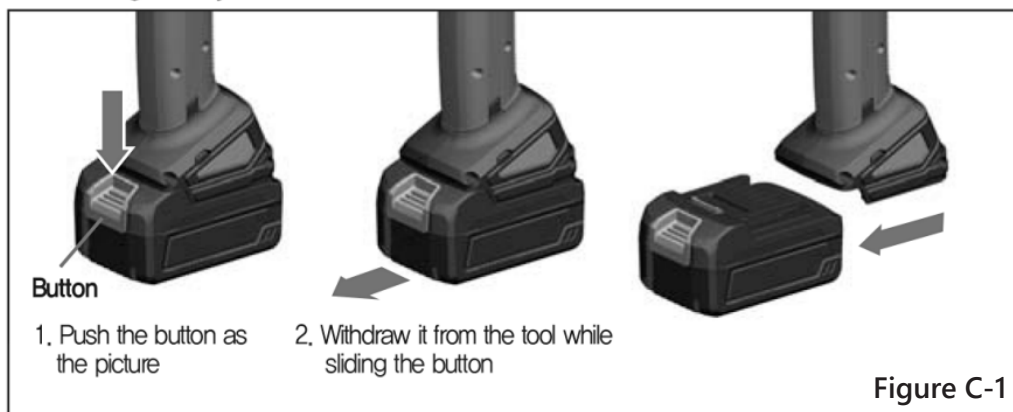

Figure C-1
- Press Battery Release Button (See Figure C-1)
- While holding the button in, slide the battery in the direction of the arrow in Figure C-1